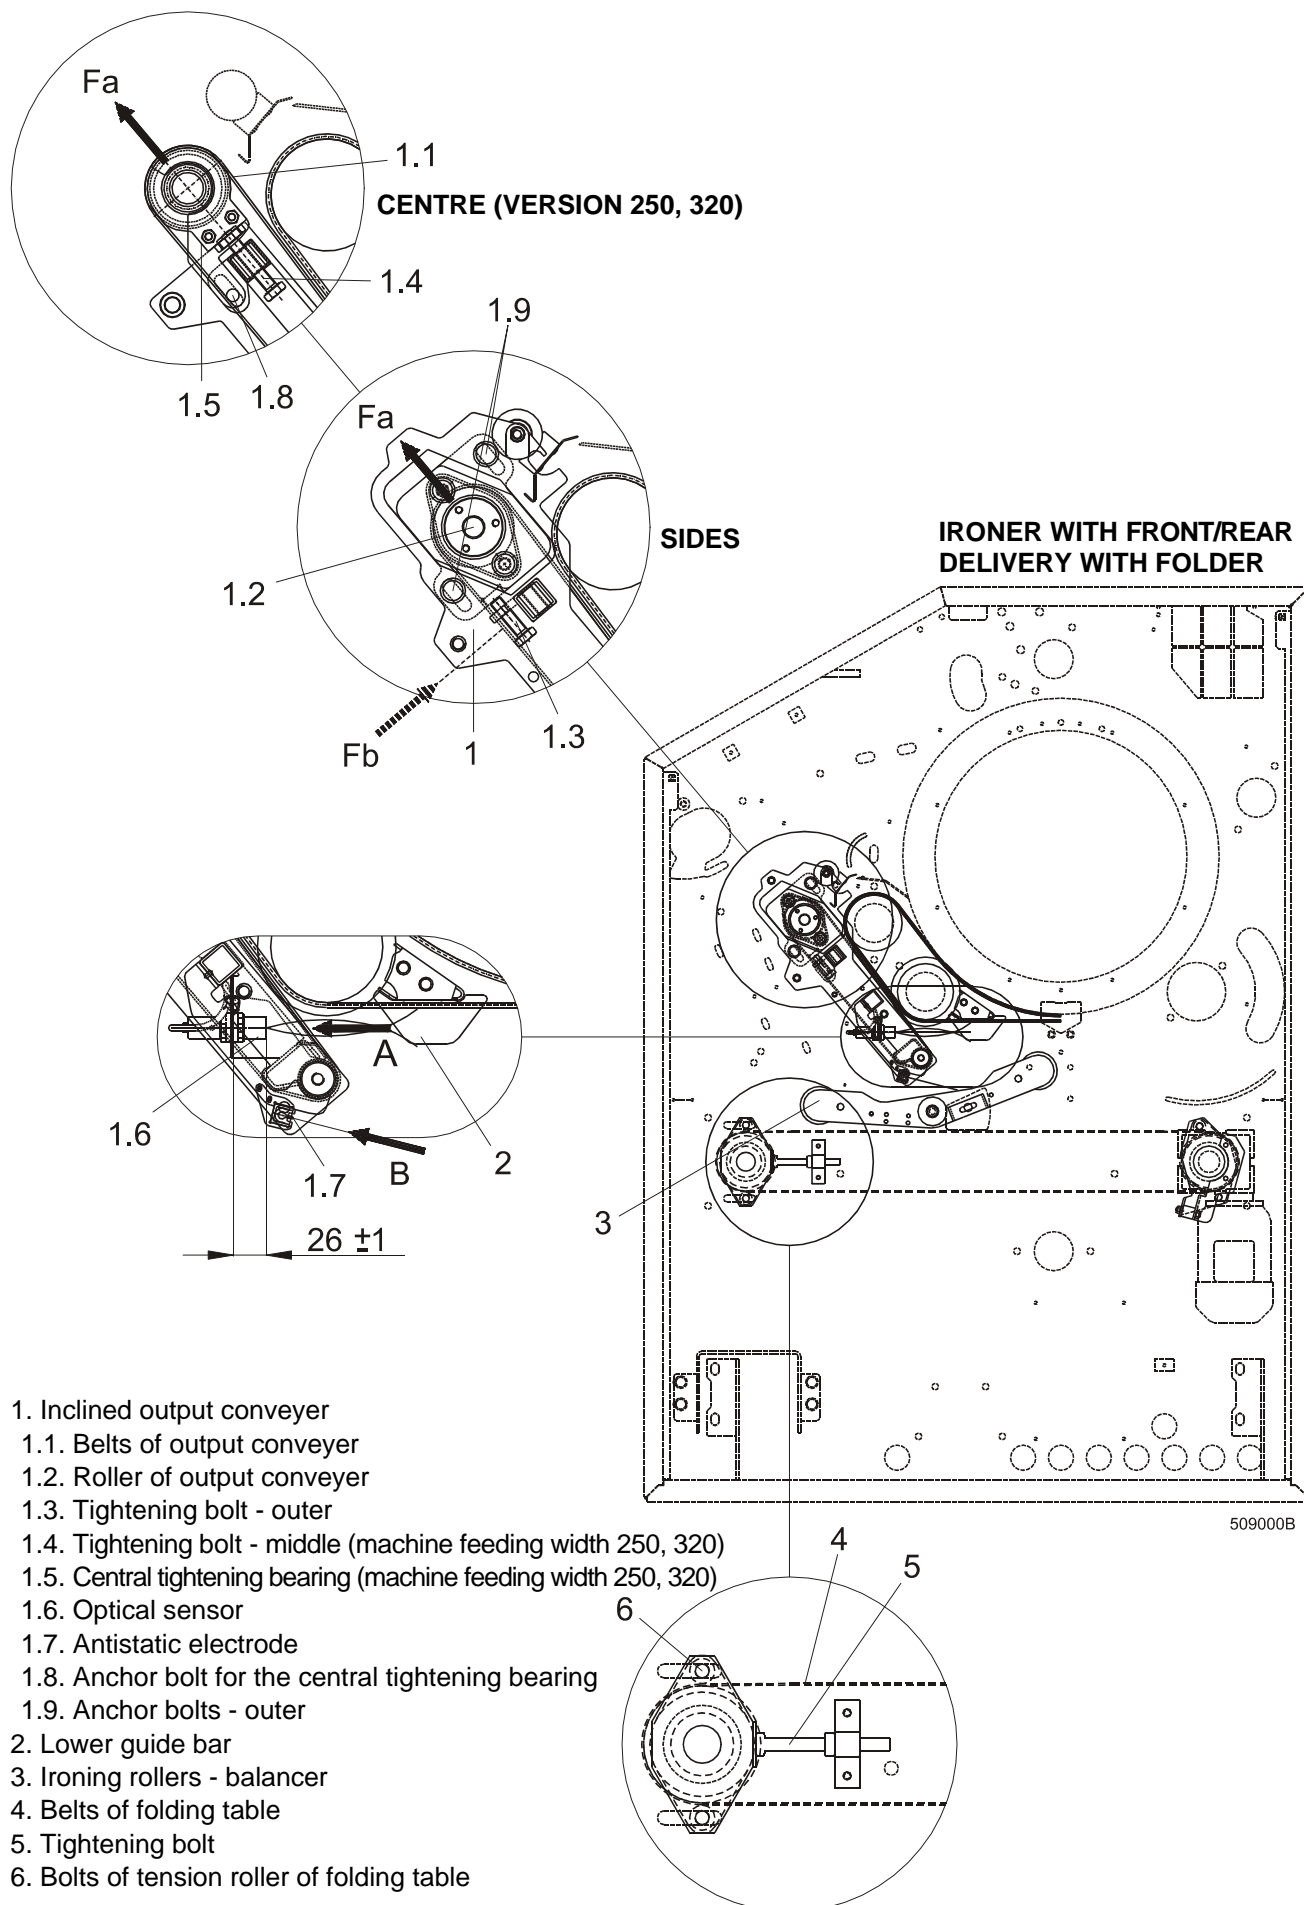

Fig. 5.14.A Look through the machine IV – right side
**(APPLICABLE FOR IRONER WITH FRONT/REAR DELIVERY WITH FOLDER, FIG. 5.14.A).**
**(APPLICABLE FOR IRONER WITH FRONT/REAR DELIVERY WITH FOLDER, FIG.5.14.A).**
**(APPLICABLE FOR IRONER WITH FRONT/REAR DELIVERY, FIG.5.14.A).**
**Tensioning** of belts of folding table (pos.4) is executed by the balanced motion of bearing bodies of folding table front roller, after loosening the bolts (pos.6). Tension the belts of folding table (pos. 4) by tightening bolts (pos.5) in both stands of machine, and tighten the bolts (pos.6).
**For replacement** of belts of folding table (pos.4) loosen the bolts (pos.6), loosen the tightening bolts (pos. 5) sufficiently and disconnect the belts (pos.4) by pulling the nylon connecting element out of metal connectors. Replace the belts by new ones and connect them. Tighten the belts adequately using the tightening bolts (pos.5) equally on both machine sides, tighten the bolts (pos.6).